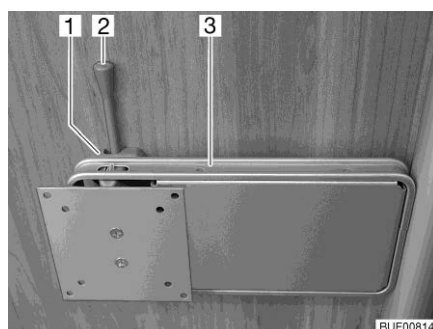

Fig. 91 Holder on the column
- Push the release lever (Fig. 91,2) to the side and turn the holder (Fig. 91,3) with the flat screen to the desired position.
- Turn the flat screen back until the holder (Fig. 91,3) engages in the lock (Fig. 91,1).